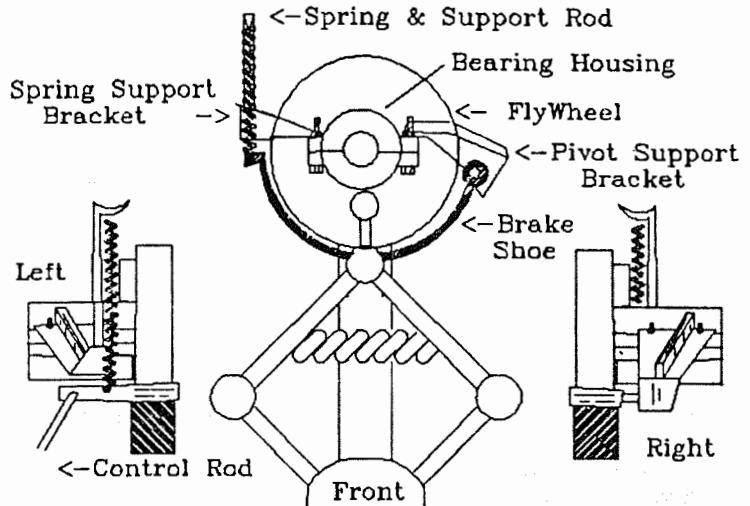

Figure 1: Overview of brake & components
After struggling with the adjustment of my 50lb. Little Giant Hammer, I decided to follow Fred Caylor's advice and fabricated a brake. The basic design was suggested to me by Steve Schwartzer. The basic elements are (1) a pivot bracket; (2) a spring support bracket; (3) a brake shoe; (4) a spring; (5) a control rod; and (5) block adjustment shoes (optional) (Fig.1). The brackets were cut from a 1/8" thick steel sheet, the brake shoe was 1/2 of a leaf spring (2" wide & approximately 21" long), the spring was a spare (see plans for the Treadle Hammer available from ABANA) but a car-hood spring should do, and the rest came out of miscellaneous scrap.
The spring was stretched between the top of the support rod and a hole drilled in the control bar of the shoe (see Fig.1-Left view). A rod extended from the rear of the control bar to a turnbuckle attached to the foot lever of the hammer. Adjust the turnbuckle until the brake releases just as the clutch of the hammer engages. When adjusted, you will be able to stop the hammer instantly and also be able to incrementally position the head to any position that you wish (i.e. you can use the beast to strike single blows if you want to).